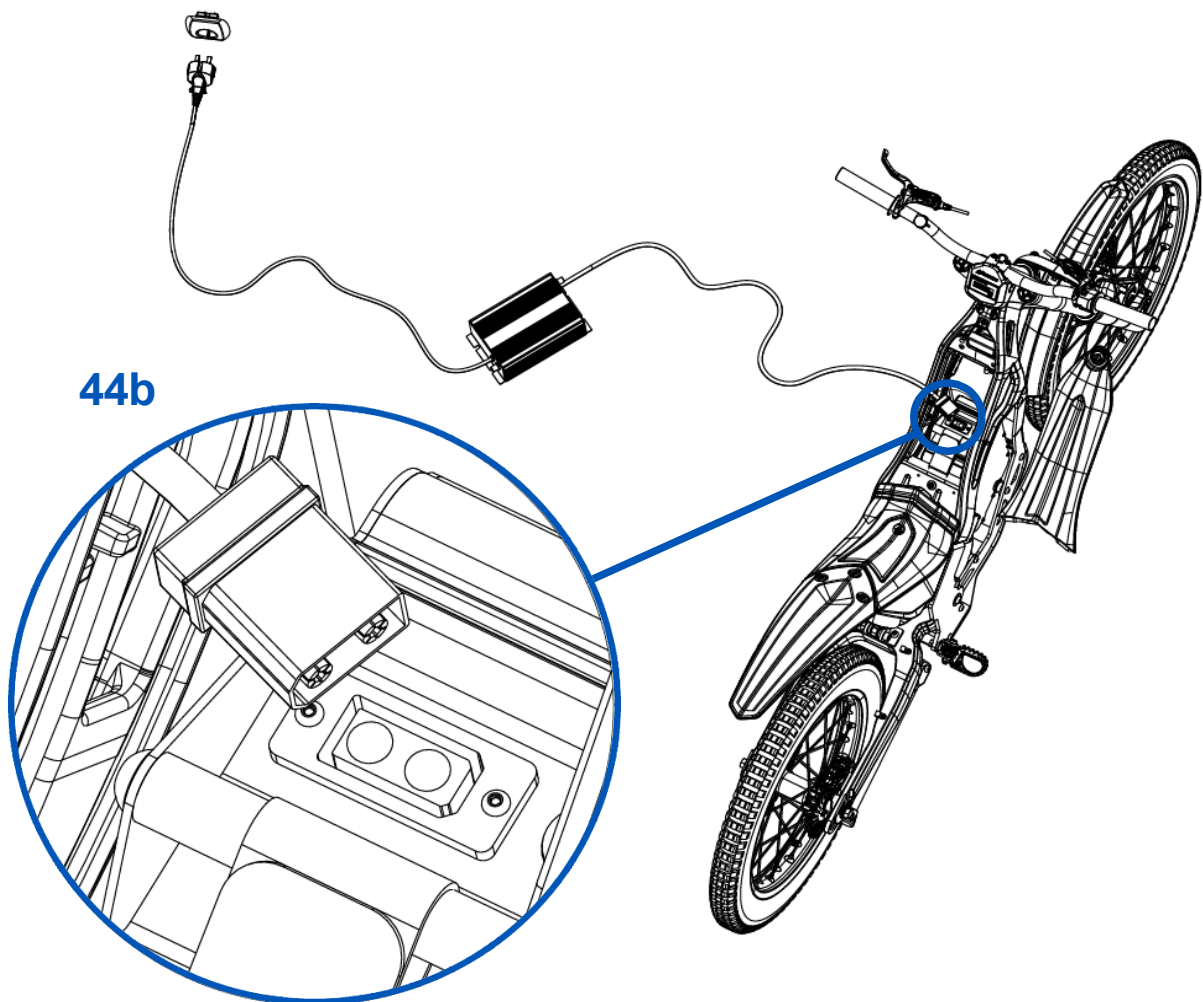

Fig. 44
- 5- Then, plug the charger cable into the domestic mains (Figure 44). At this point, LED 1 on the charger will be red and LED 2 will be green.
6- Finally, connect the charger cable with its two-pin connector to the battery. Correctly position the two-pin plug (Figure 44b) by aligning it with the slot and insert it (Figure 44).